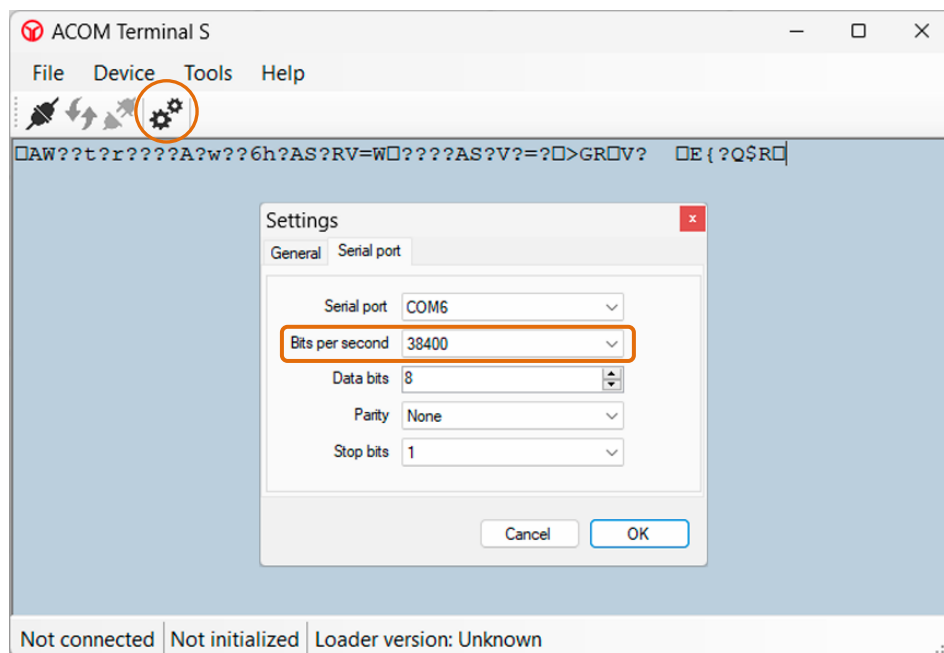

Figure 7-19 | Terminal S - Change Bits per Second
- Open the **Settings** window by clicking on the **Settings** icon (two gears) or use **Tools -> Settings** from the menu bar. In the **Settings** window -> tab **Serial port**, configure the settings as shown in **Figure 7-19 | Terminal S - Change Bits per Second**: